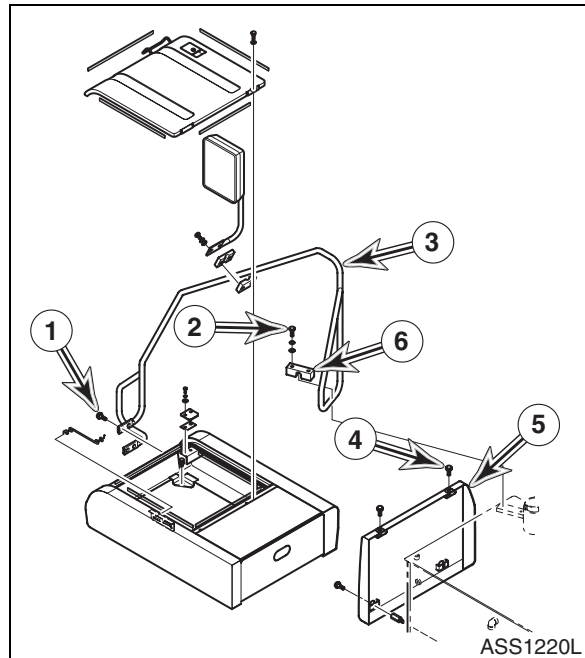

Figure 9
18. Remove four bolts (1 and 2, Figure 9), clamp (6) and stay (3) from fuel tank and frame.